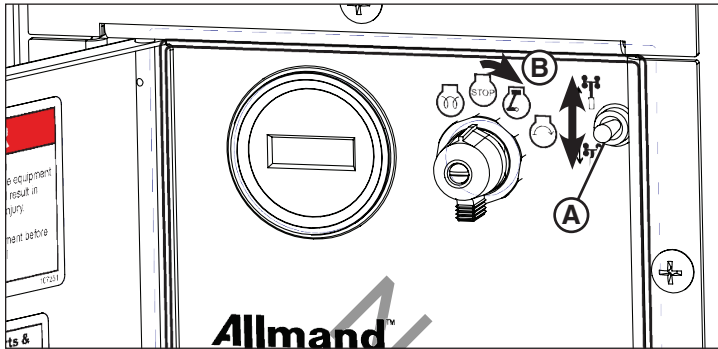

Figure 21
3. Move the tower raise switch (A, Figure 21, on the right side of the ignition switch) up until the tower is fully raised.
NOTE: The ignition switch must be turned to the RUN position (B, Figure 21) to operate the tower raise switch.